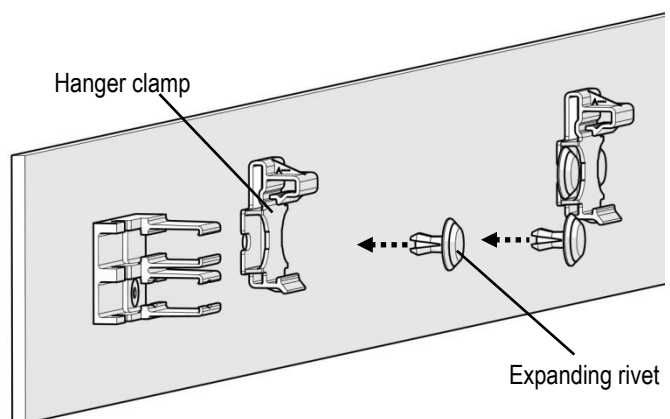

Fig. 22: Positioning and fitting the hanger clamps
- Clip the next conductor rail into the hanger clamp (see Fig. 22).